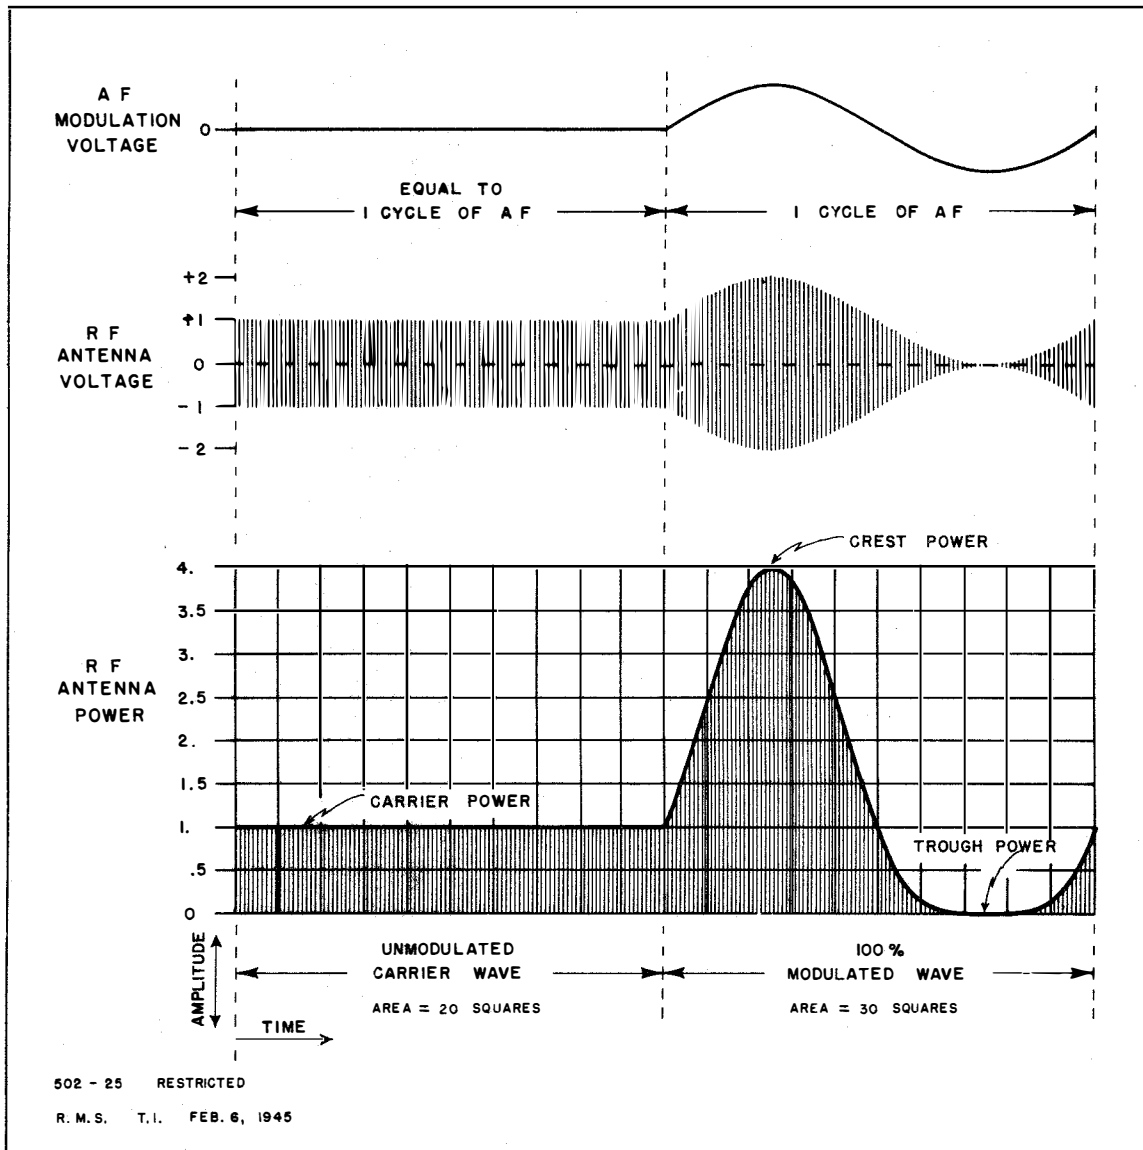

Fig. 25 Power relations in an amplitude modulated wave.
1. GENERAL CONDITIONS: Fig. 25 shows both an unmodulated carrier wave and a 100% modulated wave for comparison.
- (d) Average power in the modulated wave is 50% greater than carrier power, as shown in Fig. 25 by a comparison of the areas under the curves of antenna power.